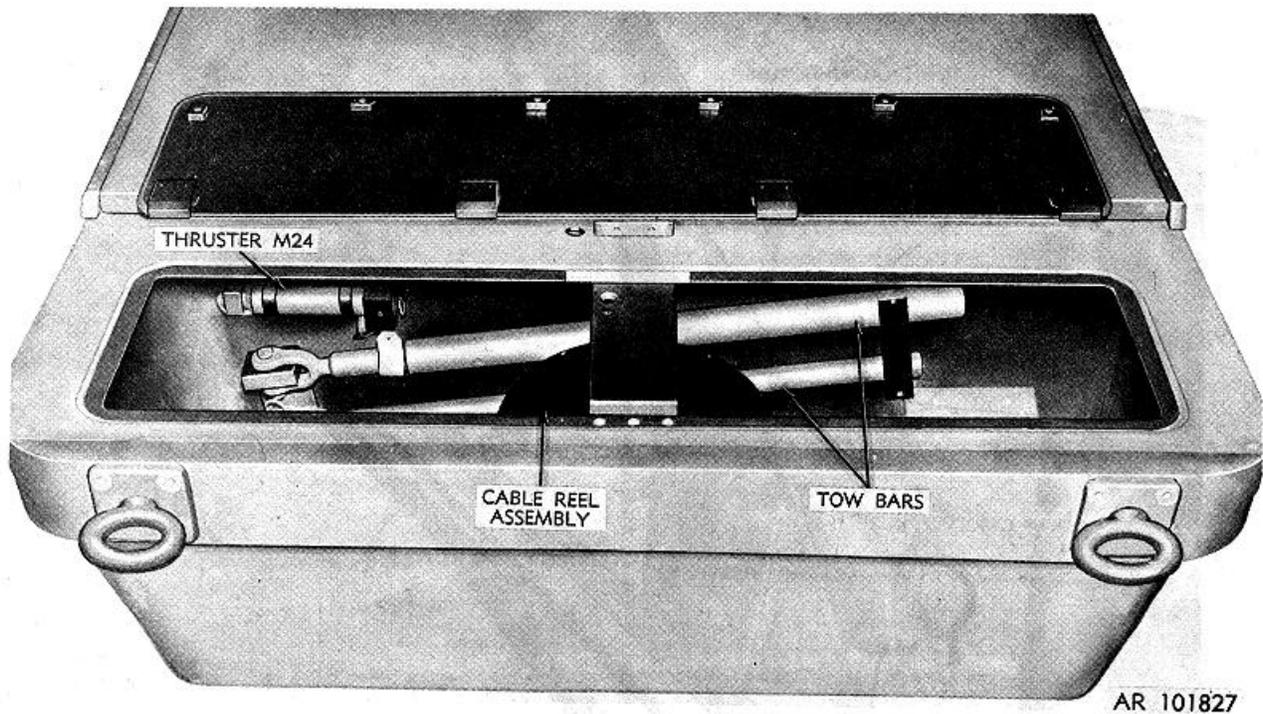
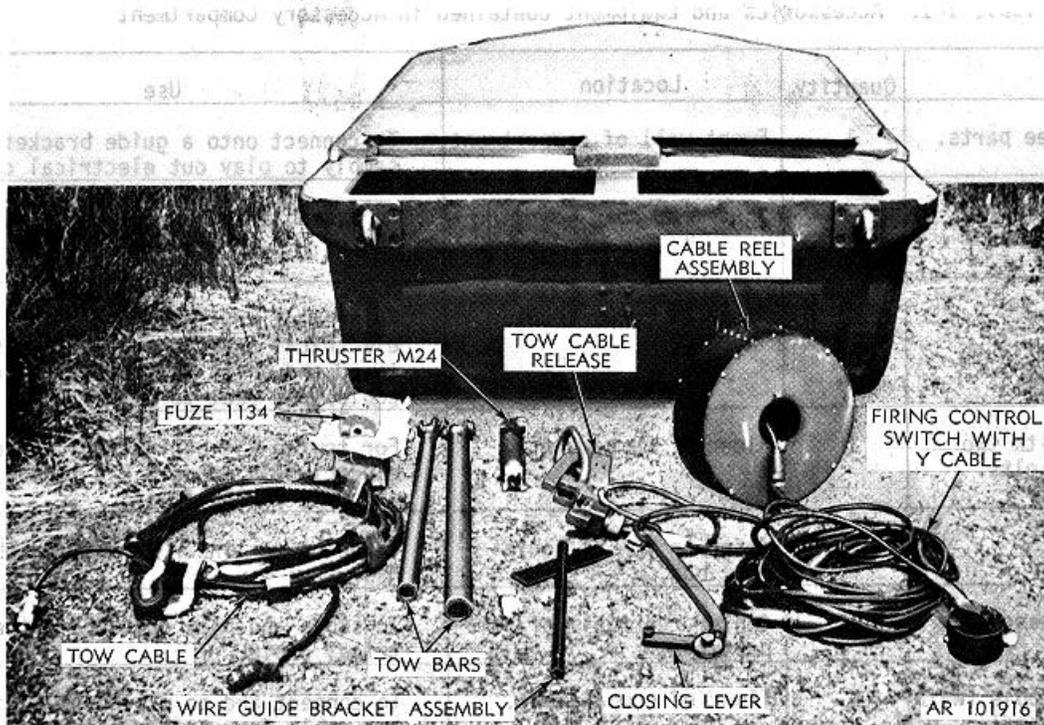

Figure 1-6. Partial arrangement of accessories and equipment in accessory compartment (all accessories are shown in figure 1-7).
Figure 1-7. Accessories and equipment stored in accessory compartment.
d. Accessories and Equipment. The accessory compartment (fig. 1-6) serves as an easily accessible storage area for the items identified in table 1-1 and figure 1-7. Standard hand tools will be obtained from